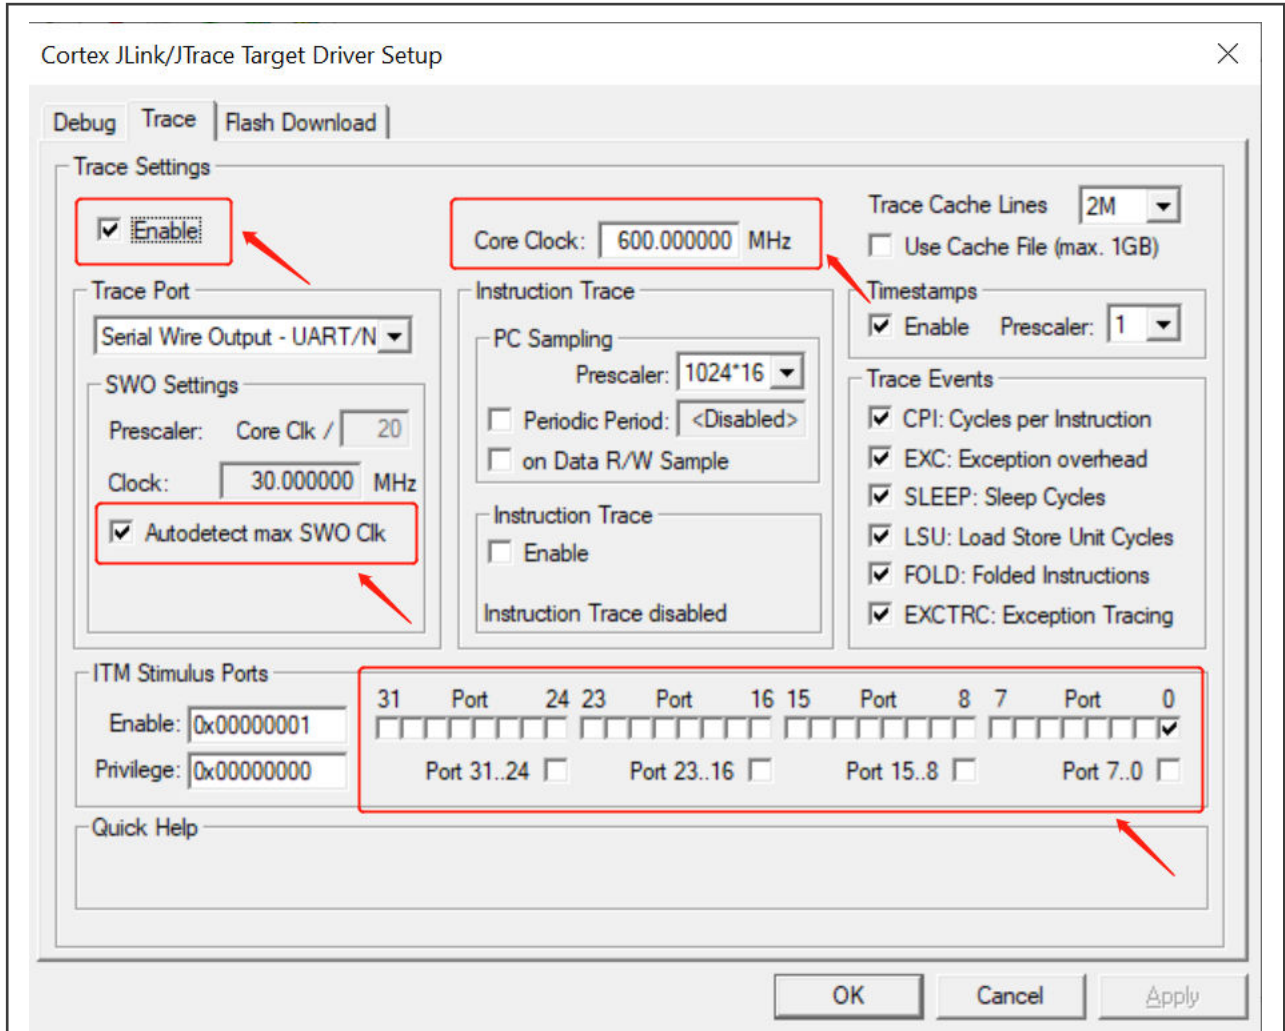

Figure 14. J-Link trace configurations
5. Click the trace submenu and make the configurations as shown in Figure 14.